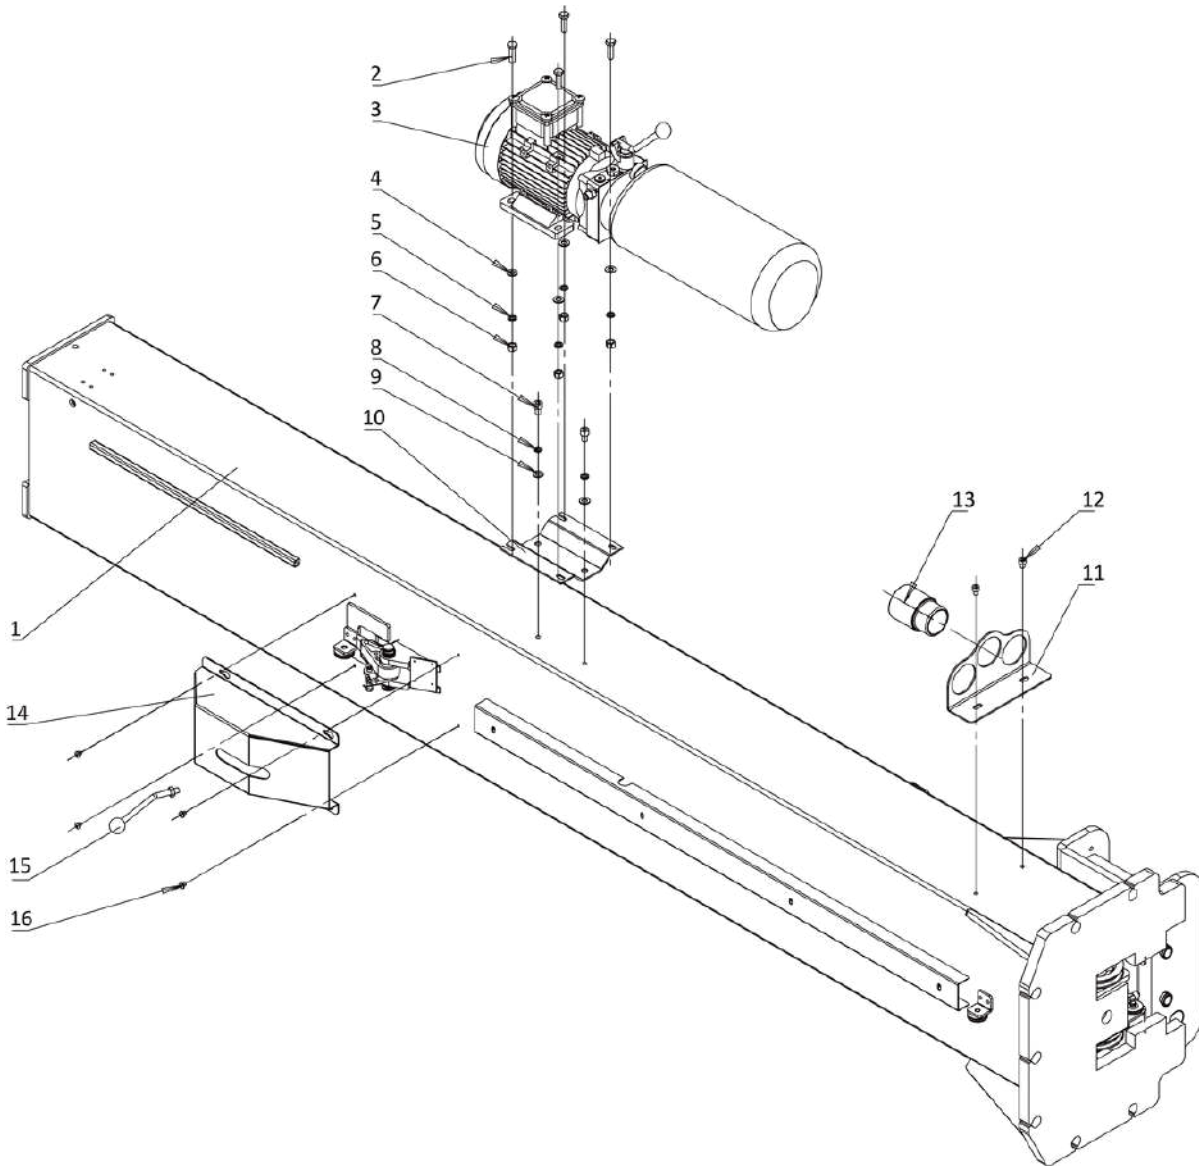

Fig 13
Step 9: Install Power Unit Install power unit & motor mounting plate on the main column with screws. Install Power unit, truck adapter holder and motor mounting plate. (Fig 13).